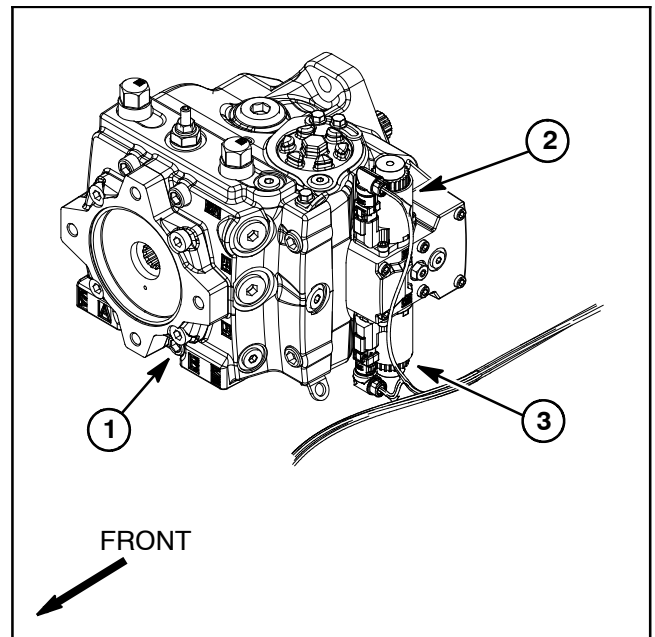

Figure 62
4. Label wire harness connectors that attach to the two (2) solenoid coils on left side of piston pump (Fig. 62). Disconnect harness connectors from solenoid coils on piston pump.